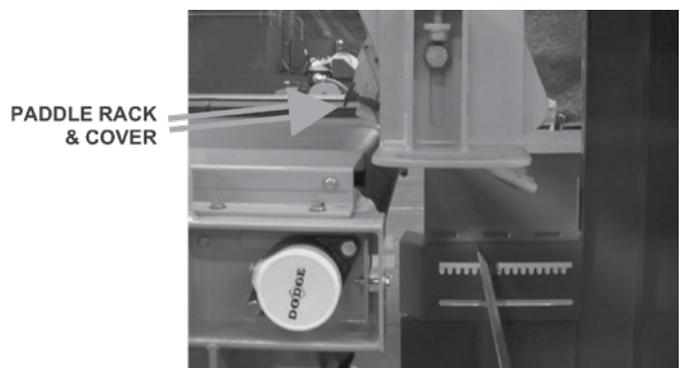

**FIGURE 1-1: BELT / TRAY CLEARANCE**
1. Conveyor belt and vibratory feeder tray (**FIGURE 1-1**):